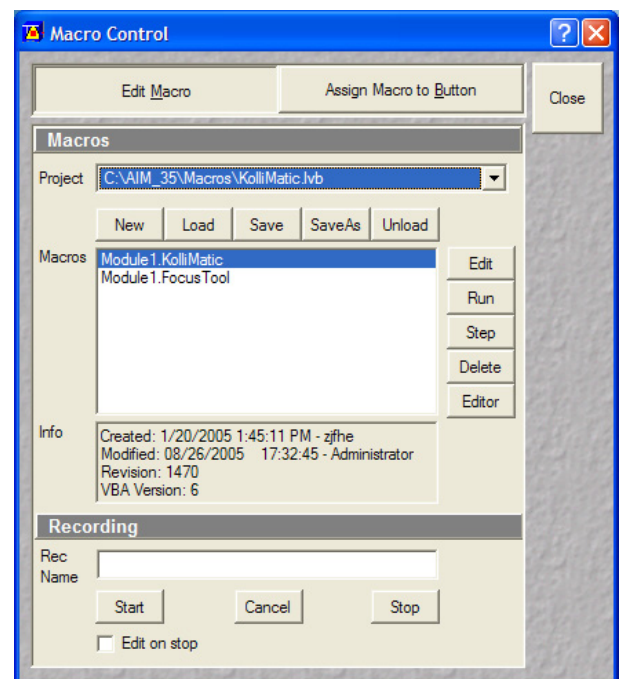

Fig. 5-9 Macro Control Window of the main LSM Software
- Use the **Macro** menu of the main LSM software to **Load** and **Run** the Macro **KolliMatic** (see Fig. 5-9)